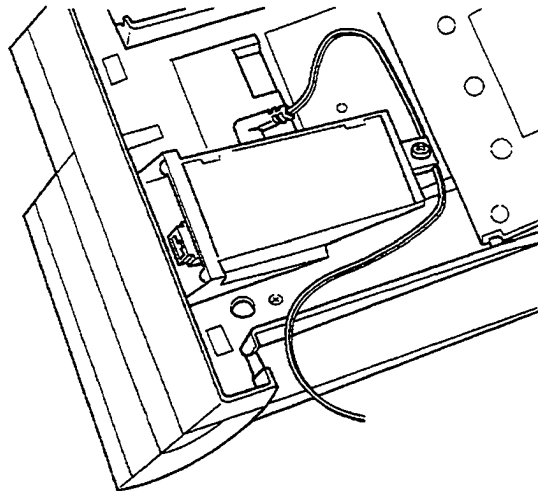

Figure 1-86 Lead the AC Adapter Cord out from the Unit
5. Plug the cord of the ACA-U Unit in the jack on the APR-U Unit. The ACA-U Unit is a separate unit that can be purchased from NEC. Lead the AC Adapter cord out through the groove in the base as shown in Figure 1-86 Lead the AC Adapter Cord out from the Unit.